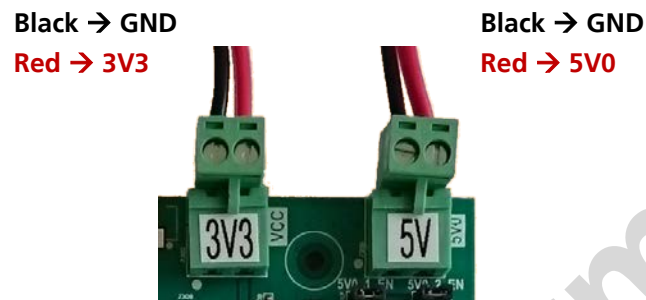

Figure 2: Power supply cable connection
2. Connect cables fitting to your power supply to the screw terminals for 3.3 V and 5 V as shown in Figure 2: